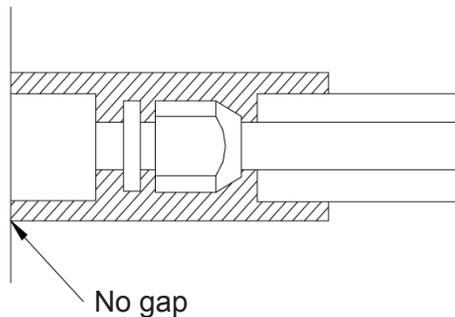

Fig. 18
- (1). The refrigerant pipe should be insulated by insulating material and plastic tape in order to prevent condensation and water leakage.
- (2). The joints of the indoor unit should be wrapped with the insulating material and no gap is allowed on the joint of the indoor unit, as shown in Fig. 18.